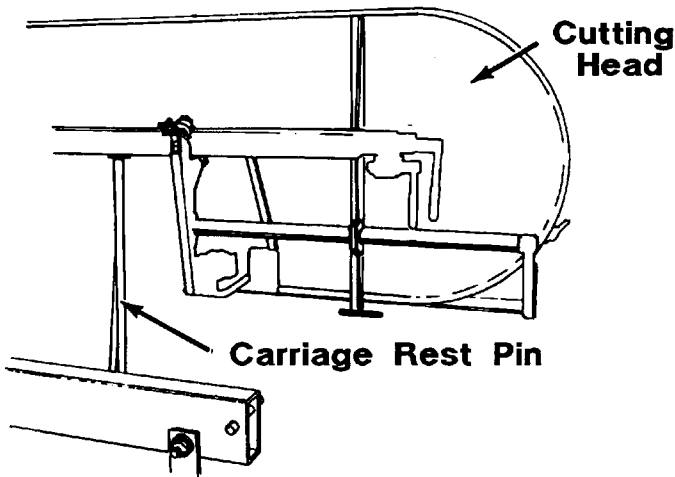

FIG 3-8
2. Move carriage to travel position over rear bed rail. Lower the carriage until it rests firmly on the carriage rest pin (See Figure 3-8).